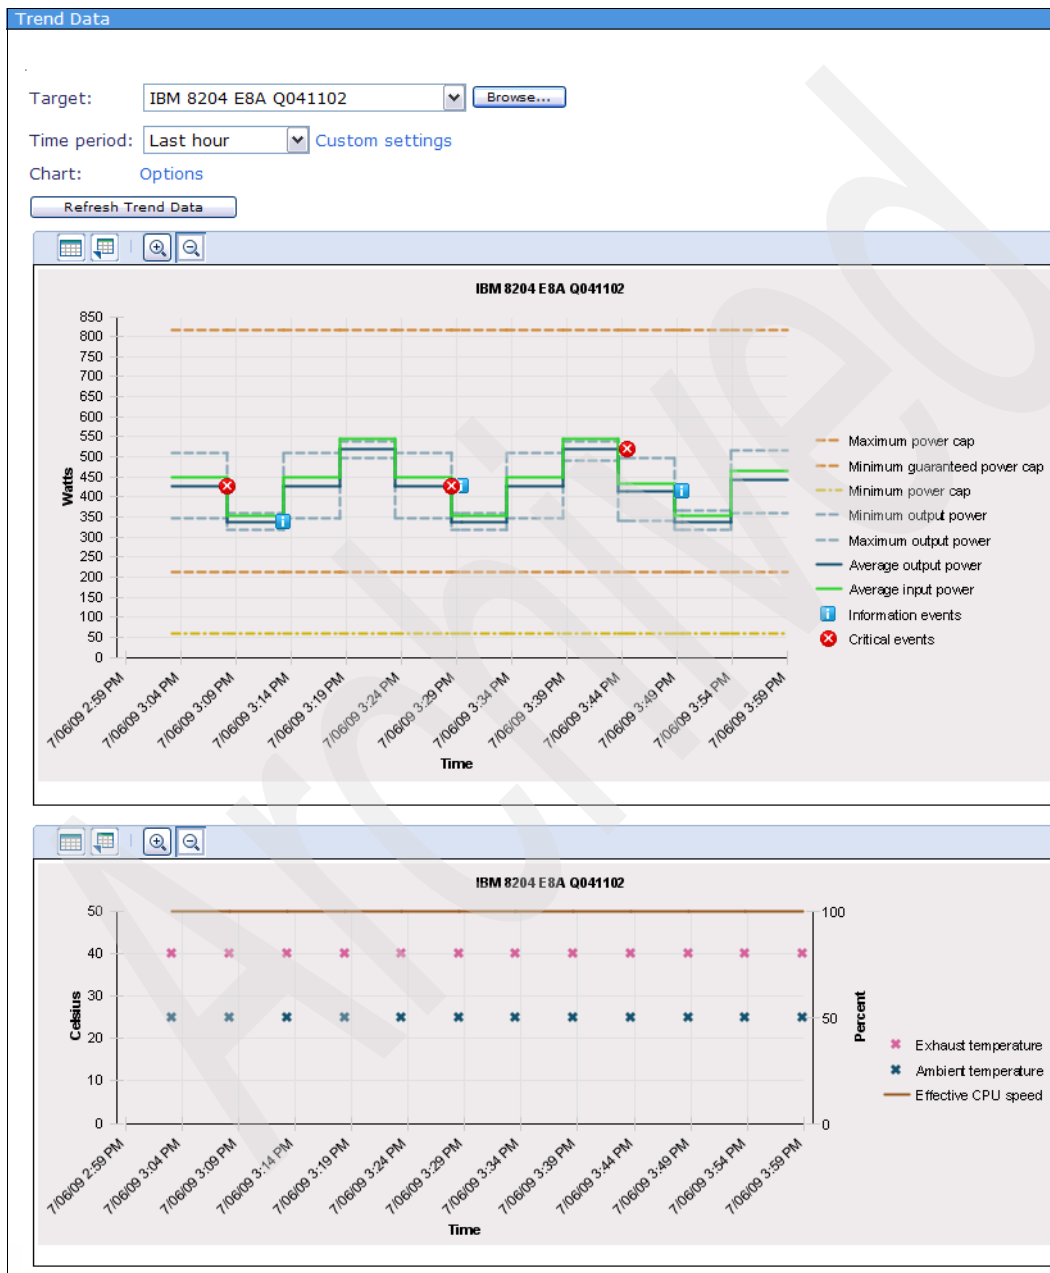

Figure 6-41 Viewing trend data for an Active Energy Manager resource - 2
The Trend Data display opens, similar to that shown in Figure 6-41, power trending data shows in the upper chart and thermal trending data in the lower chart.
**Note:** For a description of the different colored lines, terms, and event icons shown in Figure 6-41, refer to “Reading the trend data chart legend” on page 231.
In Figure 6-41, notice the following features:
The charts include legend at the side, as shown in Figure 6-41 on page 226. This legend indicates the meaning of each of the lines on the chart. Depending on the resource for which you are viewing trend data, some of the chart metrics might not be available. If a particular resource does not support a certain metric then the metric is not shown.